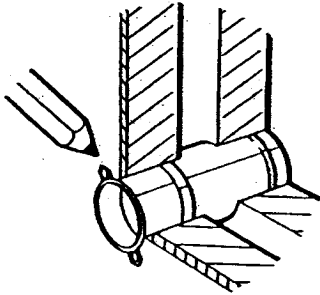

Fig. 65
7. Slide the assembled wall liner into the hole in the wall until the tags stop against the inner wall with the seam of the liner uppermost. Mark the positions of the holes in the tags on the wall and then rotate liner so that tags reveal marks (Fig. 65).